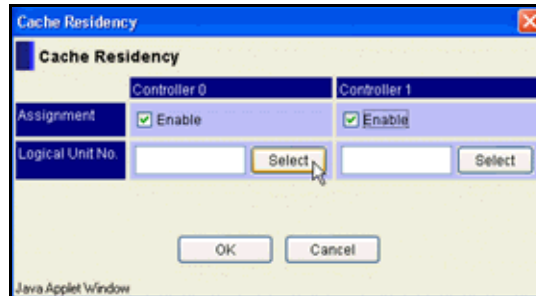

Figure 6-1: Cache Residency Dialog Box
1. Click **Set**. The Cache Residency dialog box appears, as shown in Figure 6-1.